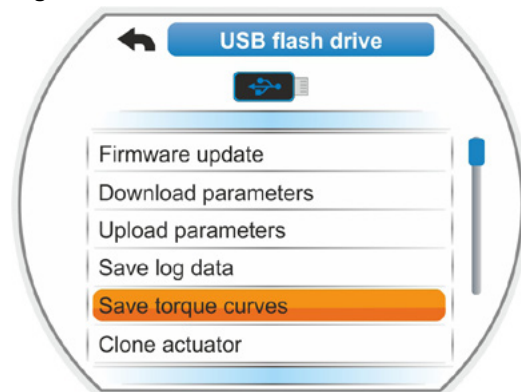

Fig. 2: USB flash drive menu
2. Select 'Save torque curves' (fig. 2) and confirm.